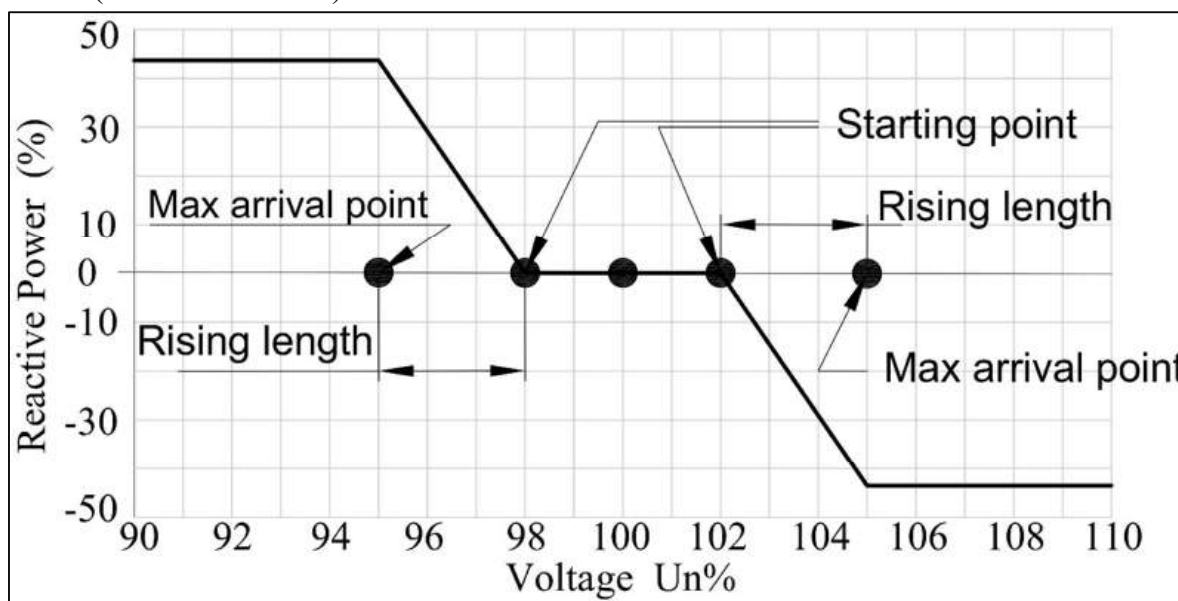

Figure 3.19 QU curve when power factor is 0.9,
- **Reactive Power-Vol curve:** Reactive power-voltage amplitude curve abide by Universal standard. Please set the following parameters as required: *Starting point of Q-U%*, *Rising length of Q-dU%*. For example, As shown in the figure 3.19, QU curve when power factor is 0.9, From the power factor of 0.9, we can calculate the maximum reactive power as 43.59%* apparent power). **Starting point of QC:** Starting point of capacitive reactive power.